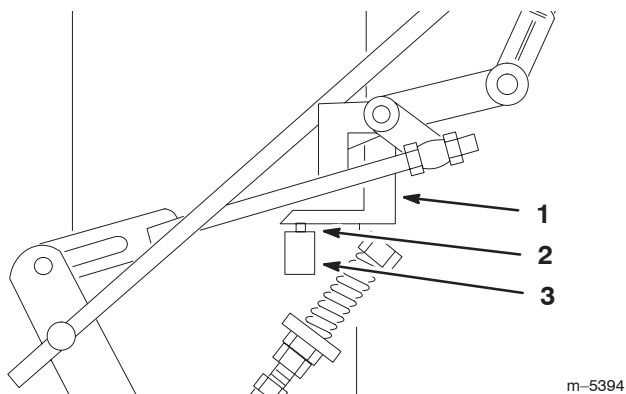

Figure 49
4. Check the orientation of the tabs on the ends of the speed control crank. These tabs should be pointing straight down at the 6 o'clock position approximately (Fig. 49).
5. Adjust the threaded yoke at the bottom of the speed control linkage until the tabs are at the 6 o'clock position (Fig. 49).
7. Check to make sure the safety switch is depressed and there is a 5/16 inch (8 mm) space between the actuating tab and the switch. (Fig. 49).
8. If needed, adjust switch location to create the 5/16 inch (8 mm) space (Fig. 49).